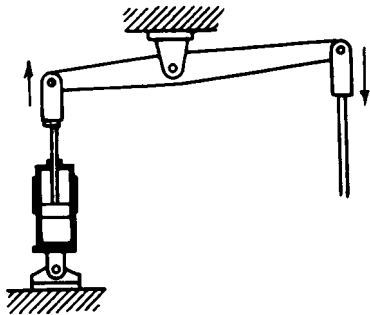

Fig. 1 A cylinder can be used with a first-class lever.
**Fig. 1** (A) A Ramelli pump with spring-loaded vanes to ensure contact with the wall; vane ends are rounded for line contact. (B) Two vanes pivot in the housing and are driven by an eccentrically mounted disk; vanes slide in glands and are always radial to the